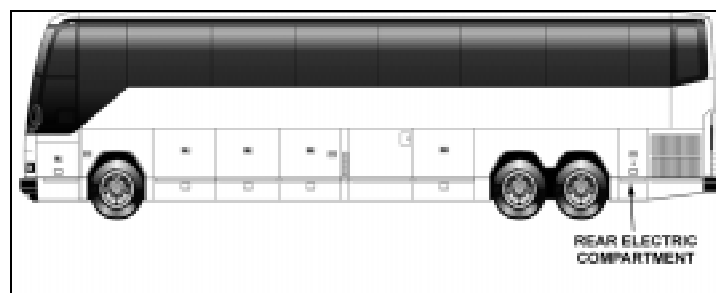

figure 4
7. Open the rear electric compartment door (figure 4).